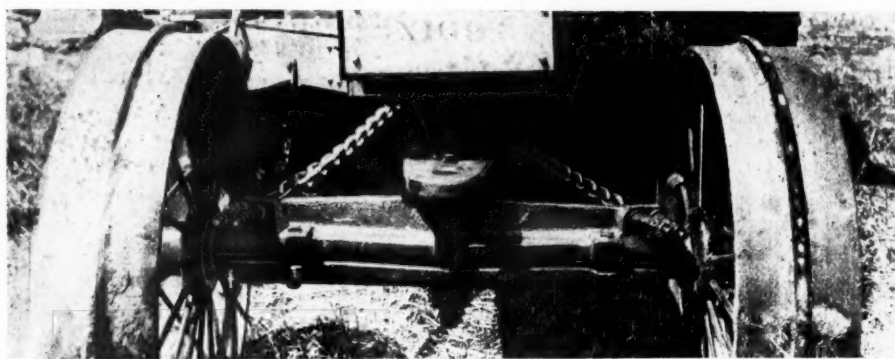

Fig. 4—The old style tractor axle consisting of a steel bar strengthened with castings clamped upon it
**5. GENERAL REQUIREMENTS:** The bodies shall be complete in every respect and ready for installation on the chassis transom frame. It is intended that these bodies shall be so constructed as to permit of their installation on any chassis frame irrespective of the width or height of frame, and at the same time permit of ready access to the transmission and rear axle, and to give a proper clearance between the rear wheels and truck body when the truck is fully loaded. The body shall be constructed in accordance with details shown on drawings, Nos. Cl. 31—Div. 20, Fig. 4.
In Fig. 4 the old style of steering is shown, still used on many of the largest machines. Here the